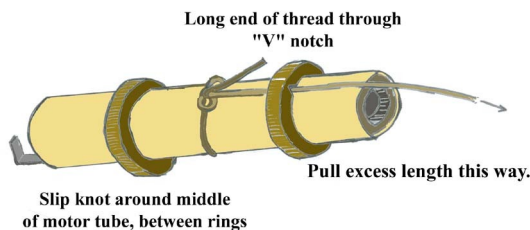

Figure 2
- **Step 4** Tie a slip knot around the middle of the engine mount subassembly using the Kevlar thread, as shown in Figure 2. Push the free end of the Kevlar thread through the "V" notch, and pull the excess toward the front as you slide the slip-knot loop up against the back of the forward ring. Now, apply a bead of glue around all of the mating surfaces, securing the Kevlar thread at the same time. Set this aside and let dry.